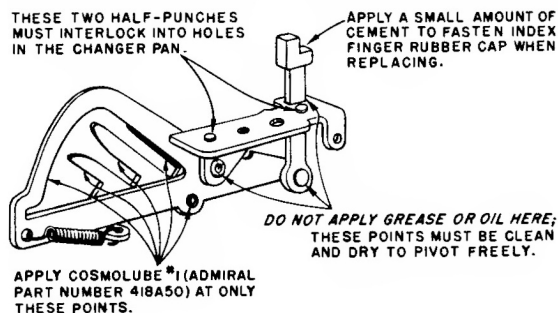

Figure 10. Set-Down Index Assembly.
Before lubricating the set-down index (69), see figure 10. Grease or oil must not exist at certain points of the set-down index. This assembly must be clean and dry at these points in order to pivot freely of its own weight.
Although the set-down index is factory assembled and requires no adjustment, some care is required when it is being replaced. The top surface of the set-down index bracket mounts to the changer pan and is positioned by two $\frac{1}{4}$ inch diameter half-punches which interlock in holes in the changer pan. A #6-32 machine screw secures the set-down index in place. See figure 10.